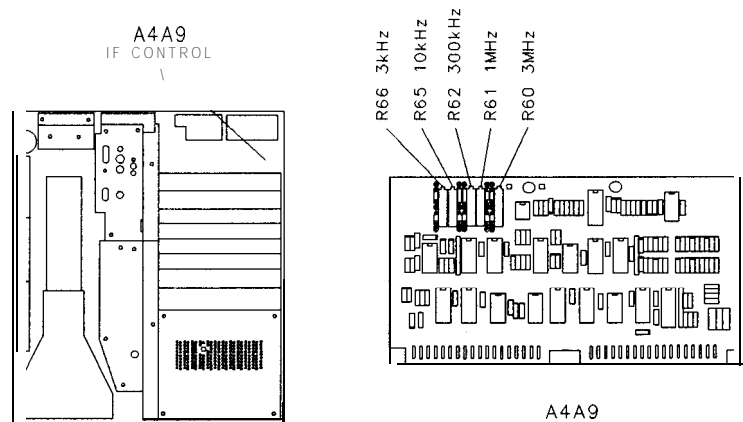

Figure 4-7. Location of Bandwidth Adjustments
8. Adjust A4A9R60 3 MHz for MKR [al indication of 1.5 MHz while maintaining the marker at .500 X using the DATA knob. Refer to Figure 4-7 for the adjustment location.
14. Adjust A4A9R61 1 MHz for MKR A indication of 500 kHz while maintaining the marker at 0.500 X using the DATA knob. Refer to Figure 4-7 for the adjustment location.
20. Adjust A4A9R62 300 kHz for MKR A indication of 150 kHz while maintaining marker at .500 X using the data knob. Refer to Figure 4-7 for location of adjustment.
26. Adjust A4A9R65 10 kHz for MKR A indication of 5.00 kHz while maintaining the marker at .500 X using the DATA knob. Refer to Figure 4-7 for the adjustment location.
32. Adjust A4A9R66 3 kHz for MKR A indication of 1.5 kHz while maintaining the marker at .500 X using the DATA knob. Refer to Figure 4-7 for the adjustment location.